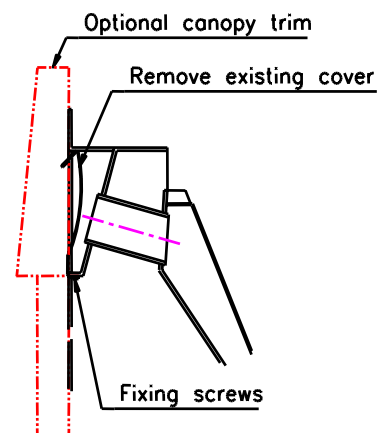

Fig.8 Optional canopy trim
8. If a flat trim or box trim has been supplied, attach it to the fire flange by means of the magnets. If the optional canopy trim has been supplied, first remove and discard the existing front cover by undoing the two screws in its bottom edge, then secure the canopy trim using the same fixings. (See Fig. 8)